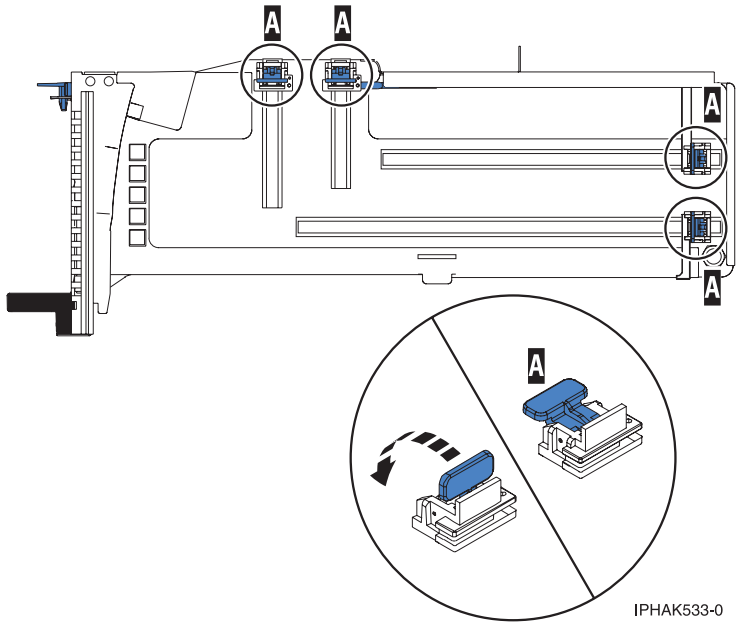

Figure 29. Adapter retainers
- b. Ensure that all of the adapter retainers (A) have been pushed out to the edges of the cassette to allow the placement of the adapter. See Figure 29 on page 38.